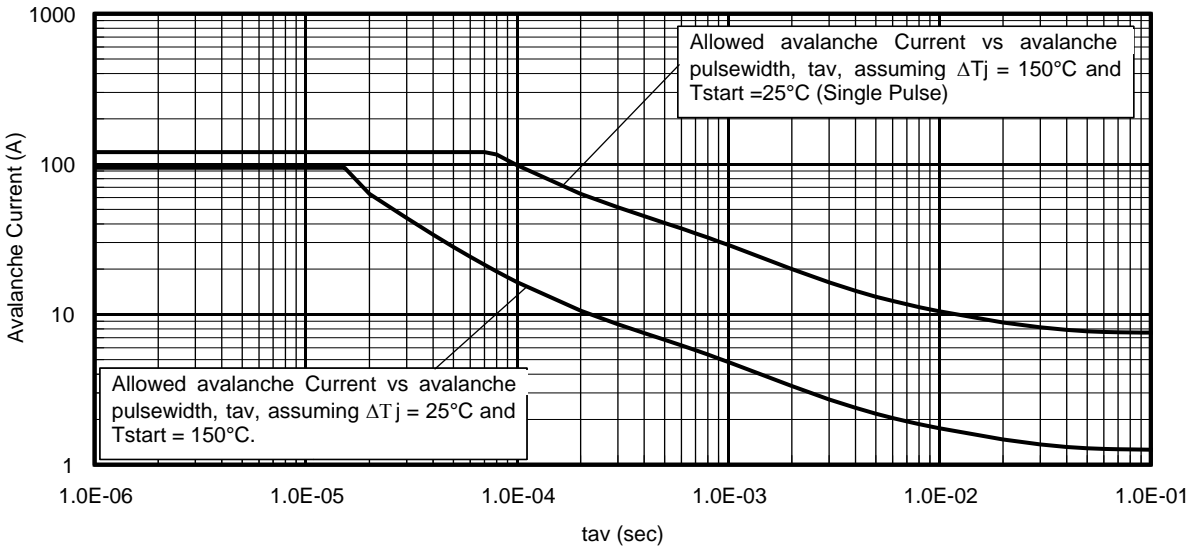

Fig 15. Avalanche Current vs. Pulse Width
Notes on Repetitive Avalanche Curves , Figures 15, 16:
7. ΔT = Allowable rise in junction temperature, not to exceed T_{jmax} (assumed as $25^{\circ}C$ in Figure 15, 16).